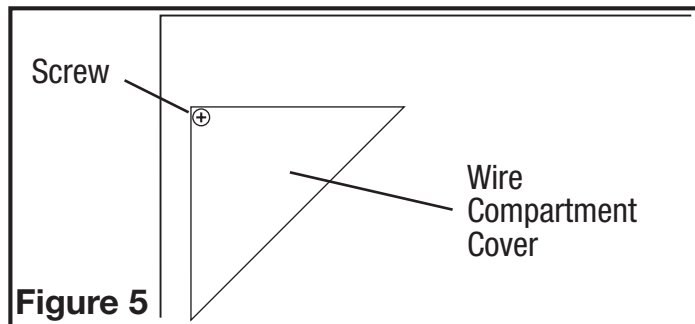

Figure 5
- 1a. External Wire Compartment: Remove the wire compartment cover screw and place cover in a secure place (Figure 5).